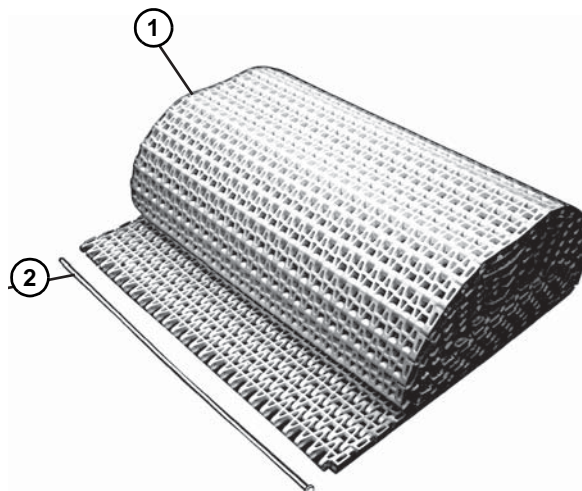

**Figure 11**
2. Attach the stands (**Figure 11, item 1**) to the frame.